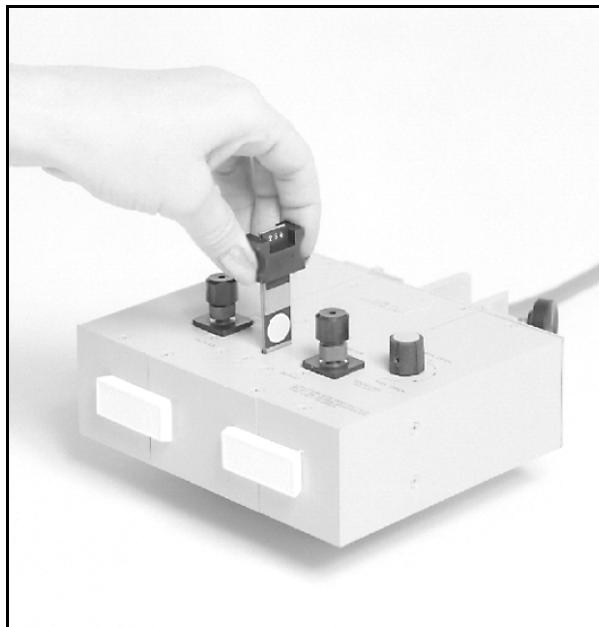

Figure 2-4 Changing the Source Screen in the Type 11 Optical Unit
3. Select the source screen that matches the filters chosen. Remove the source screen holder as shown in Figure 2-4.